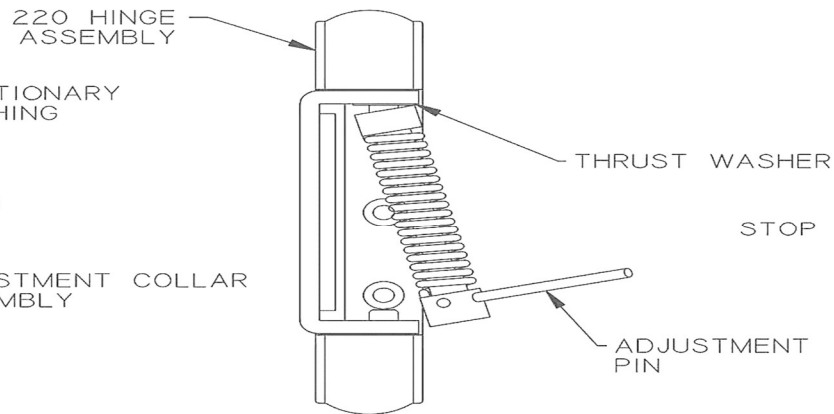

Figure 2
- 3) Place Thrust Washer and Stationary Bushing over square pin in the Hinge and insert the Adjustment Pin into the Adjustment Collar. Using the Adjustment Pin, compress the Spring and place the Adjustment Collar over the round pin (Fig. 2).